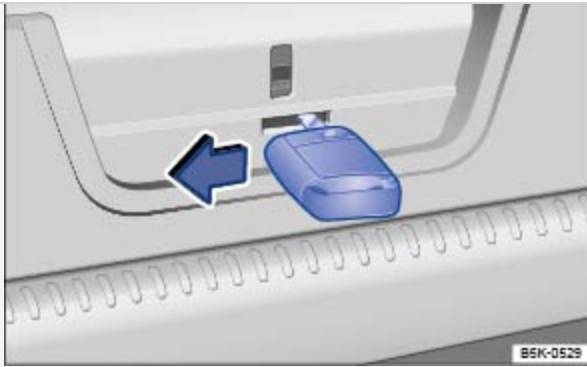

Fig. 213 Inside the luggage compartment: Opening the trunk lid.
- Insert the key into the slot on the trunk lid ⇒ *Fig. 213* and press the release lever in the direction of the arrow to unlock the trunk lid. At the same time, push the trunk lid out until it opens.